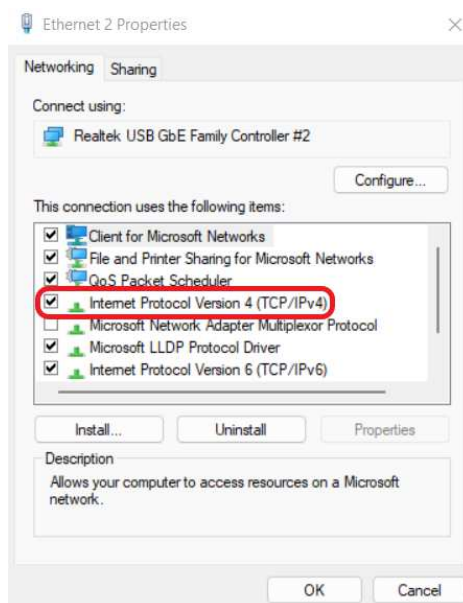

Figure 19: Network Configuration – 'Ethernet Adapter Properties' window
4. If you are not yet connected via ethernet cable to the controller the system will automatically open the 'Ethernet Properties' window shown in Figure 19 below. In either case you need to navigate to the 'Ethernet Properties' window and double-click on 'Internet Protocol Version 4 (TCP/IPv4)' – highlighted in Figure 19 below – to proceed.